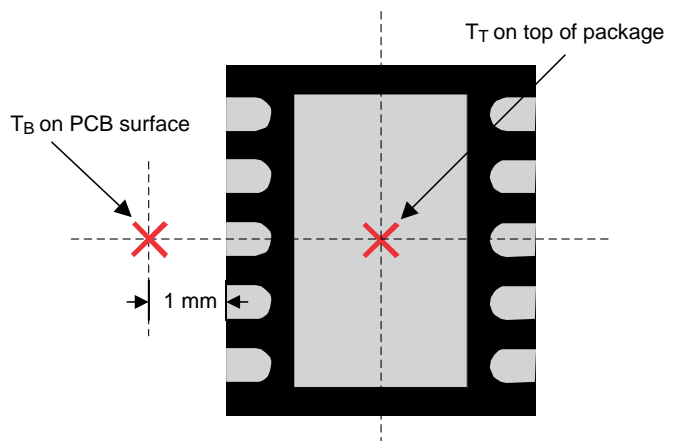

Figure 36. Package Thermal Measurement
- T_B is the PCB temperature measured 1-mm away from the thermal pad package on the PCB surface (see Figure 36).